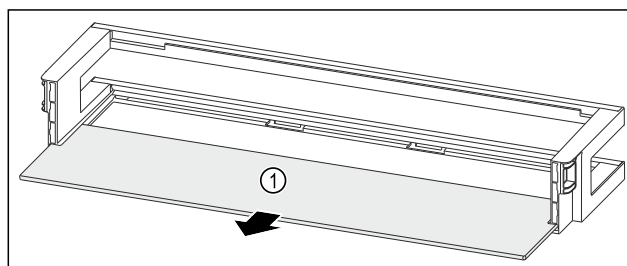

Fig. 89 Door rack with shelf
- ▶ Remove the shelf Fig. 89 (1).